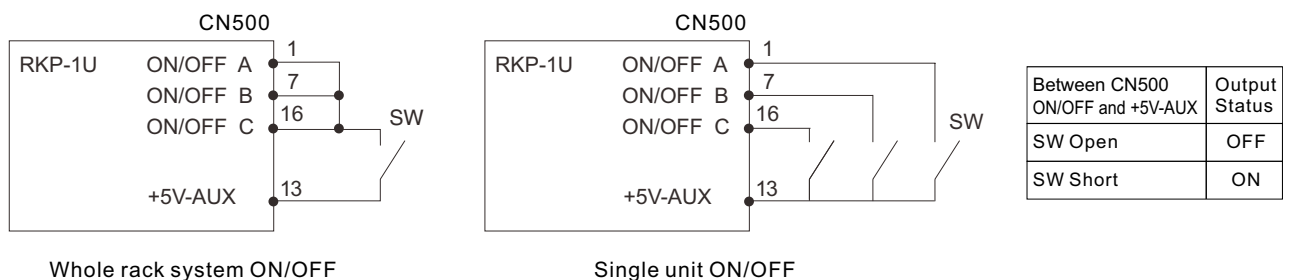

Figure 3-4 Connection for remote ON/OFF control operation
- ⊙ Built-in remote ON/OFF control circuit. Please refer to Figure 3-4 for single unit or whole rack system control.